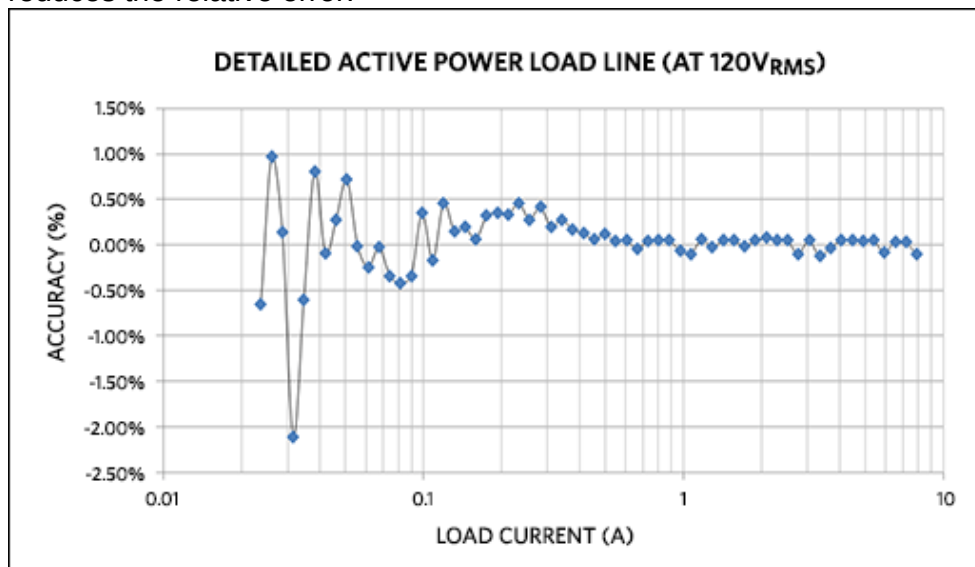

Figure 3. Power accuracy, 23.5mA to 7.9A at 120VRMS/60Hz and room temperature.
**Figure 3** shows the measured power accuracy of a random Sonoma board over load current. The error is less than  $\pm 3\%$  with a fixed set of gain/offset coefficients for the sensors. Calibration of the sensors would achieve higher accuracy. Lower current levels produce higher errors, because the measurable signal is closer to the noise level. Averaging multiple data reads or increasing the accumulation interval of the MAX78615+LMU reduces the relative error.